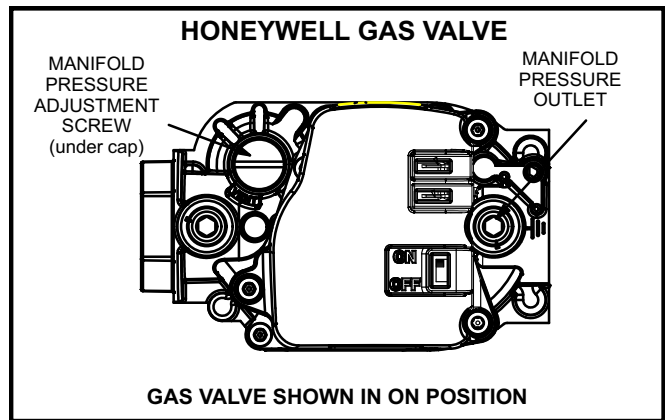

FIGURE 3
- 6 - If necessary make adjustment. See figure 3 for manifold pressure adjustment screw.
When testing manifold gas pressure, use the 1/8" N.P.T. plugged tap (manifold pressure outlet) located on the gas valve to facilitate test measuring device. Figure 3 shows location of manifold pressure outlet. Use the provided fittings and tubing to follow the steps below.